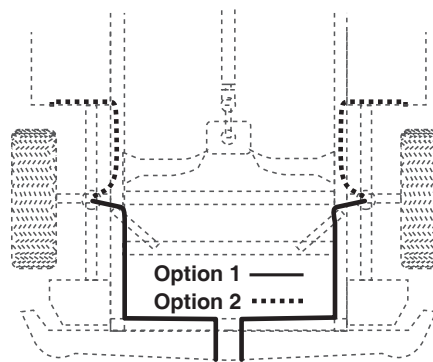

fig. 21
6. Route the air line along the frame to the air fitting on the air spring (fig. 21). Keep AT LEAST 6" of clearance between the air line and heat sources, such as the exhaust pipes, muffler, or catalytic converter. Avoid sharp bends and edges. Use the plastic tie straps (T) to secure the air line to fixed, non-moving points along the chassis. Be sure that the tie straps are tight, but do not pinch the air line. Leave at least 2" of slack to allow for any movement that might pull on the air line (fig. 21).